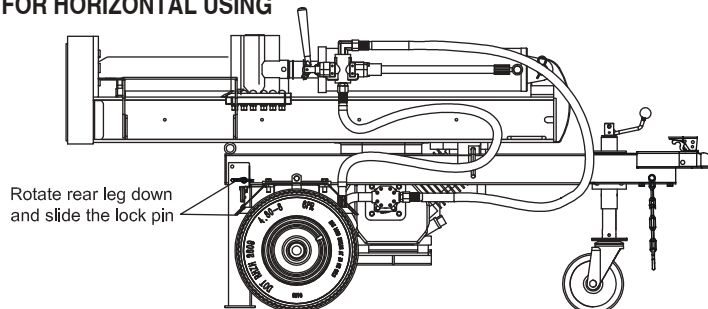

Figure 4-3
1. Rotate the vertical beam down. See Figure 4-3.